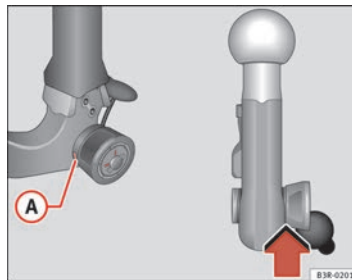

Fig. 157 Removable towing bracket: Safety check
- Check that the green marking **A** ⇒ page 204, fig. 157 on the knob is inside the black zone marked on the ball joint.